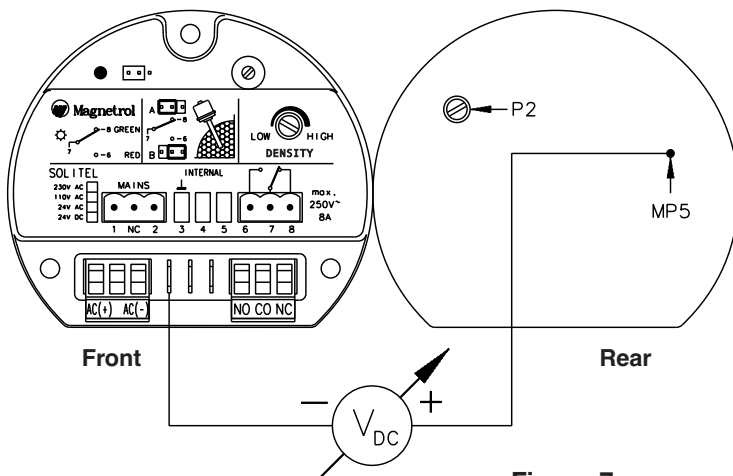

Figure 7
5. Connect a digital multimeter between points MP5 on the back of the module and ground connection (terminal 3 on the electronic module) or the body of the vibrating probe. See Figure 7 on page 7.